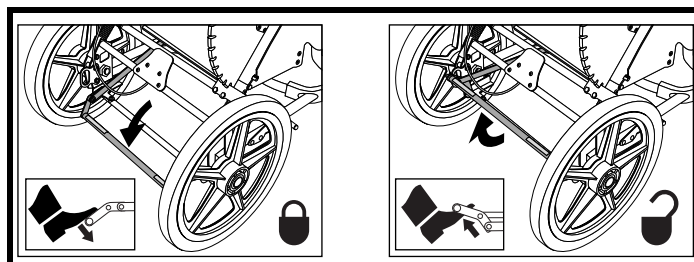

Figure 8. Kids ROCK 2 and ROCK 3 Attendant Wheel Lock (Engaged and Disengaged)
1. Use your foot to push down on the attendant wheel lock bar to engage the locks. **See figure 8.**
1. Pull up on the bar to release the attendant wheel locks. **See figure 8.**